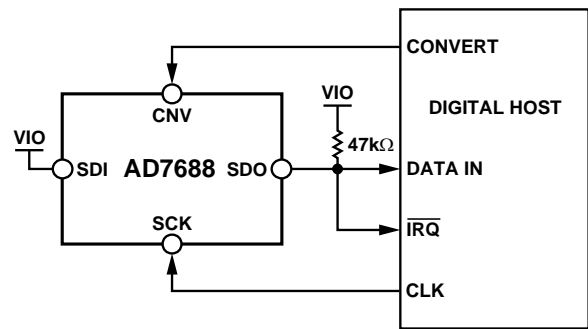
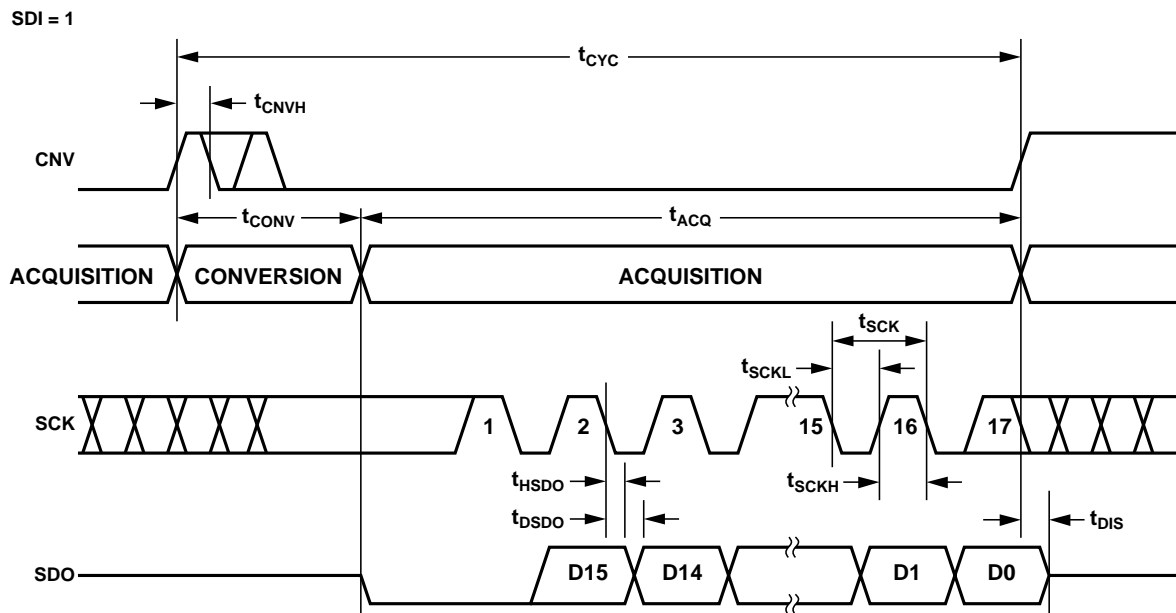
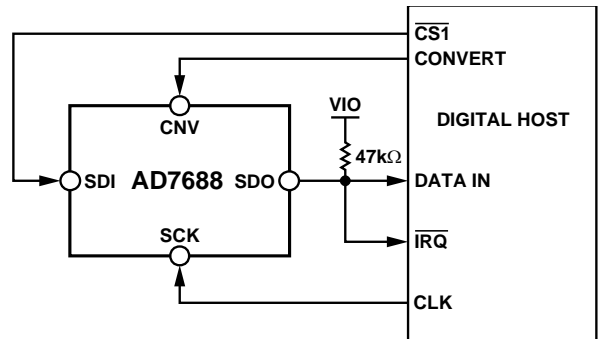
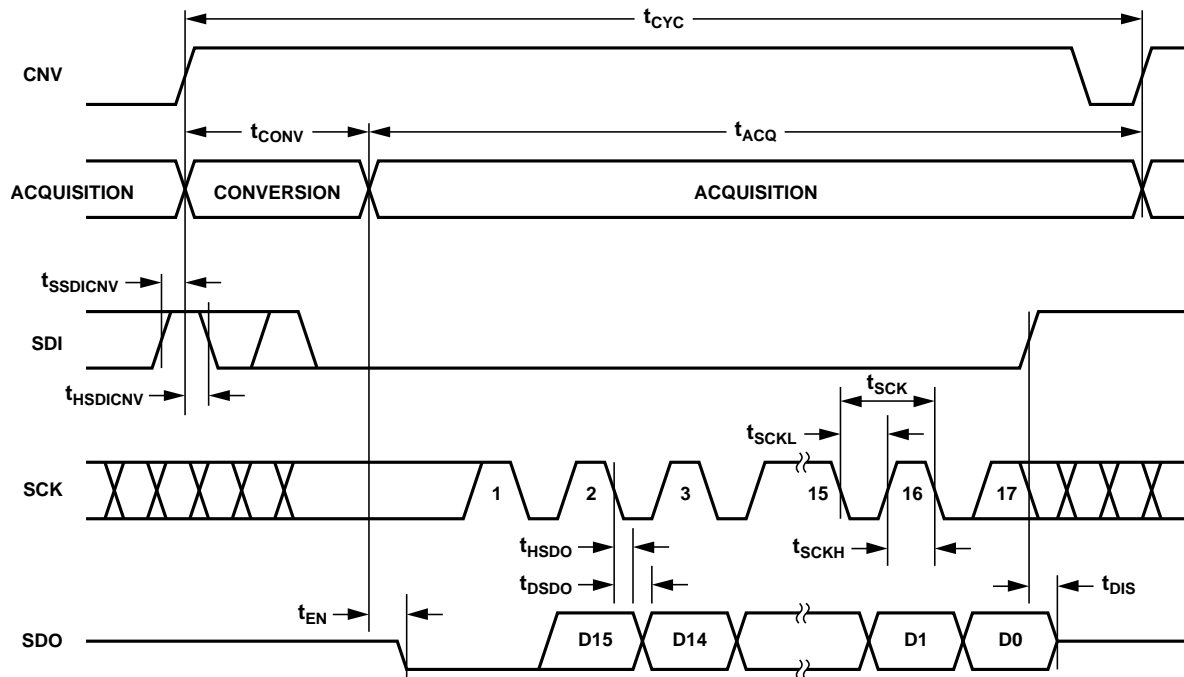

Figure 36.  $\overline{\text{CS}}$  Mode 3-Wire with BUSY Indicator Connection Diagram (SDI High)
Figure 37.  $\overline{\text{CS}}$  Mode 3-Wire with BUSY Indicator Serial Interface Timing (SDI High)
Figure 40. CS Mode 4-Wire with BUSY Indicator Connection Diagram
Figure 41. CS Mode 4-Wire with BUSY Indicator Serial Interface Timing
- In the  $\overline{CS}$  mode, if CNV or SDI is low when the ADC conversion ends (Figure 37 and Figure 41).
The connection diagram is shown in Figure 36 and the corresponding timing is given in Figure 37.
The connection diagram is shown in Figure 40 and the corresponding timing is given in Figure 41.